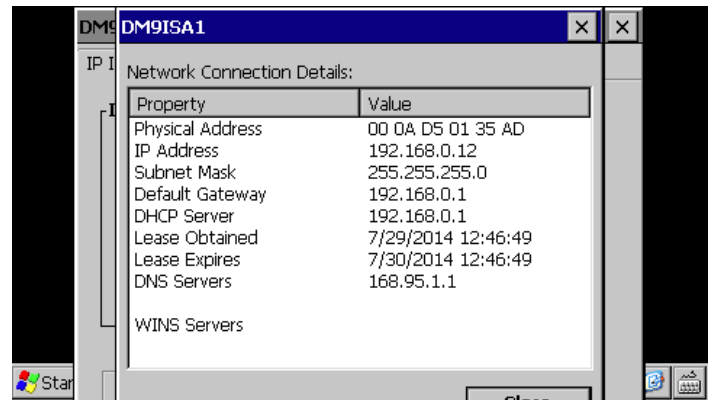

Fig. 123: IP Information tab screen
- The MAC address (Fig. 123) is displayed as the first item (Physical Address). Once the address has been recorded, close the network information windows and cycle power to the Touch Screen in order to restart the system and return to normal operation.